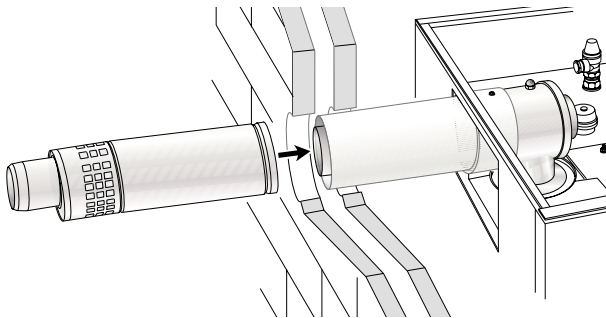

Fig. 5
14. From outside the building - fit terminal section through the hole in the wall. Engage onto boiler connector section (Fig. 5).